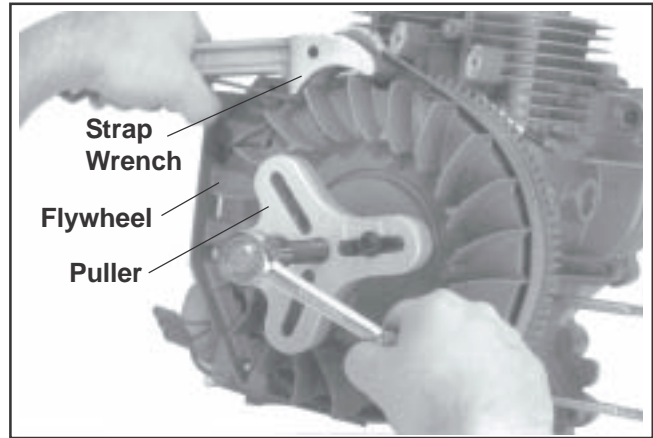

Figure 9-38. Removing Flywheel With a Puller.
3. Remove the flywheel from the crankshaft using a puller. See Figure 9-38.